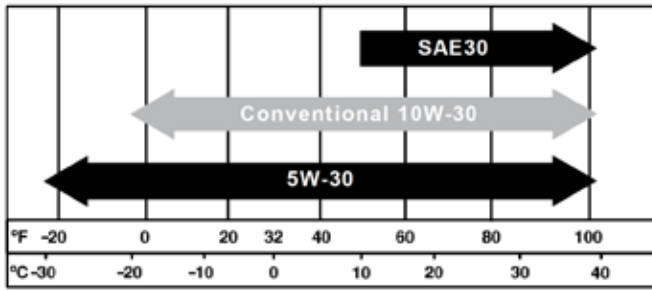

Figure 18 - Recommended Oil
1. Only use the engine oil specified in Figure 18.
6. Select the proper engine oil as specified in Figure 18.